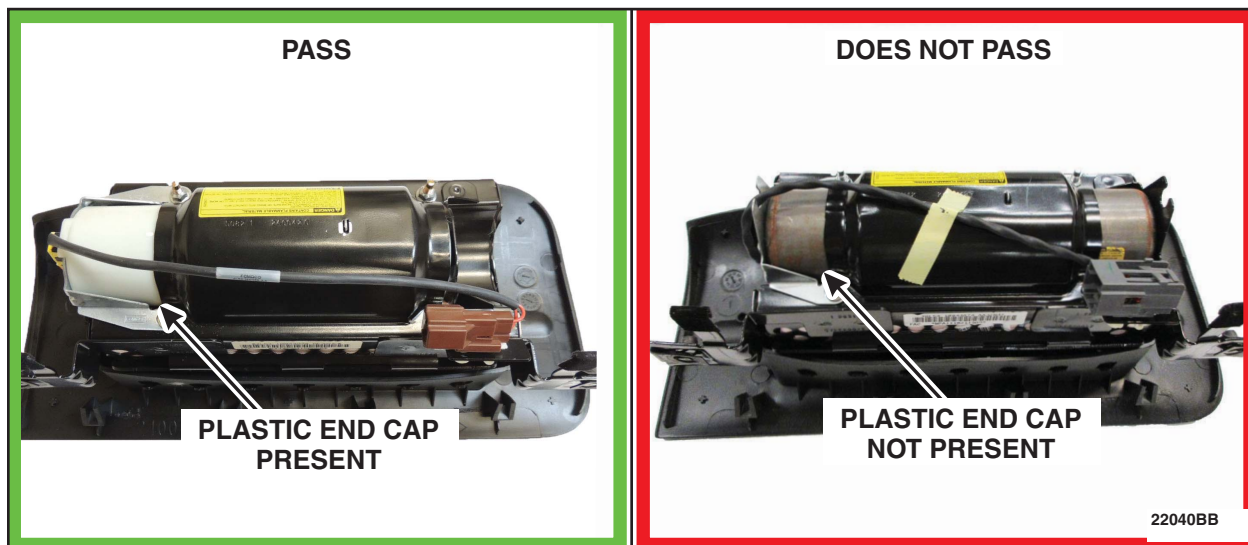

FIGURE 1
3. Inspect the passenger airbag inflator end for the presence of a plastic end cap as shown in Figure 1.
Yes: Inspection **PASS** See Figure 1 - No Repair Is Needed
No: Inspection **DOES NOT PASS** See Figure 1 – **REPAIR IS REQUIRED**